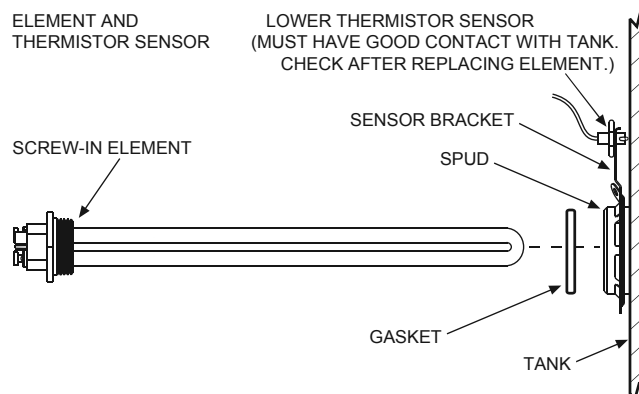

FIGURE 20
6. Make sure the replacement element has the correct voltage and wattage rating. Lubricate the new gasket with a few drops of dishwashing soap, position the new gasket on the element and insert it into the water heater tank (Figure 20). Tighten the element by turning it clockwise until secure.